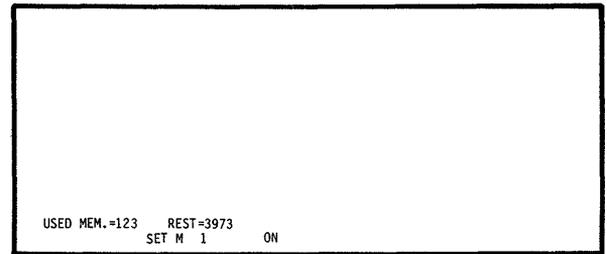

Fig. 12.6
GOCoil of device number, which follows the device number display on the screen, is forcedly set (ON). The screen displays the state of M1 as shown in Fig. 12.6.